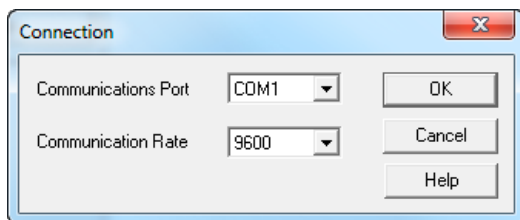

Figure 7-5
- Click the **Configure Instrument** button and the **Connection** window will appear (see Figure 7-5).
**NOTE:** The instrument must be configured for the same communications rate specified in Figure 7-5. If it is not, then you must either select the corresponding rate or change the instrument's rate.